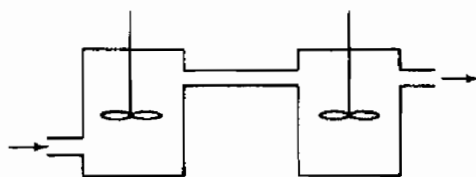

Figure P32.12
- 32.12** Suppose that you have two tanks in series, as diagrammed in Figure P32.12. The volume of liquid in each tank remains constant because of the design of the overflow lines. Assume that each tank is filled with a solution containing 10 lb of A , and that the tanks each contain 100 gal of aqueous solution of A . If fresh water enters at the rate of 10 gal/hr, what is the concentration of A in each tank at the end of 3 hr? Assume complete mixing in each tank and ignore any change of volume with concentration.